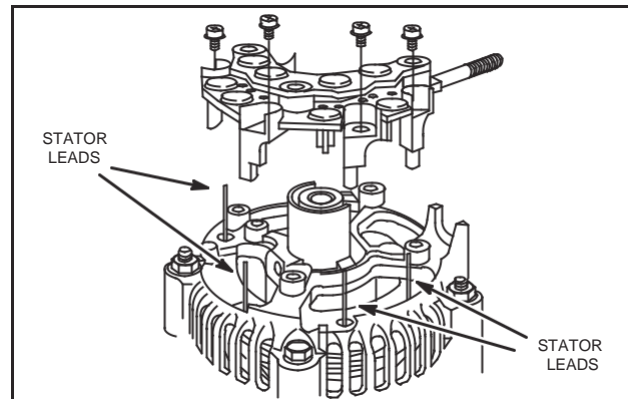

Fig. 26 – Remove Rectifier
6. Remove four stator lead screws from rectifier, Fig. 26.